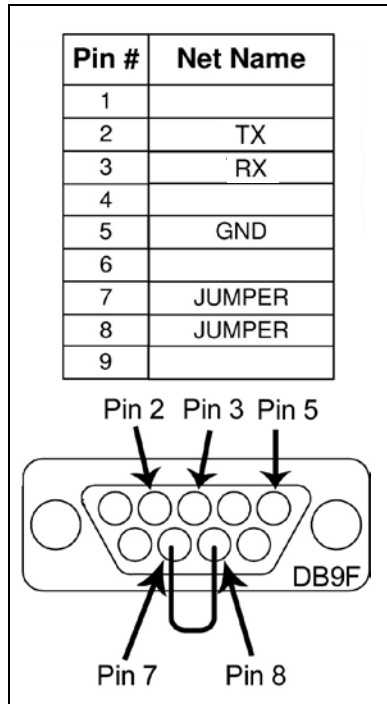

Figure 10 Example RS232 wiring on a DB9 female connector for connection to a PC
2. Connect the receive/transmit line from your PC or control board to the IntelliStick. The IntelliStick receives data on the connection labeled RX – this must be connected to the transmit line of the PC or control board. This is pin 3 of a standard DB9 connector (Figure 10).